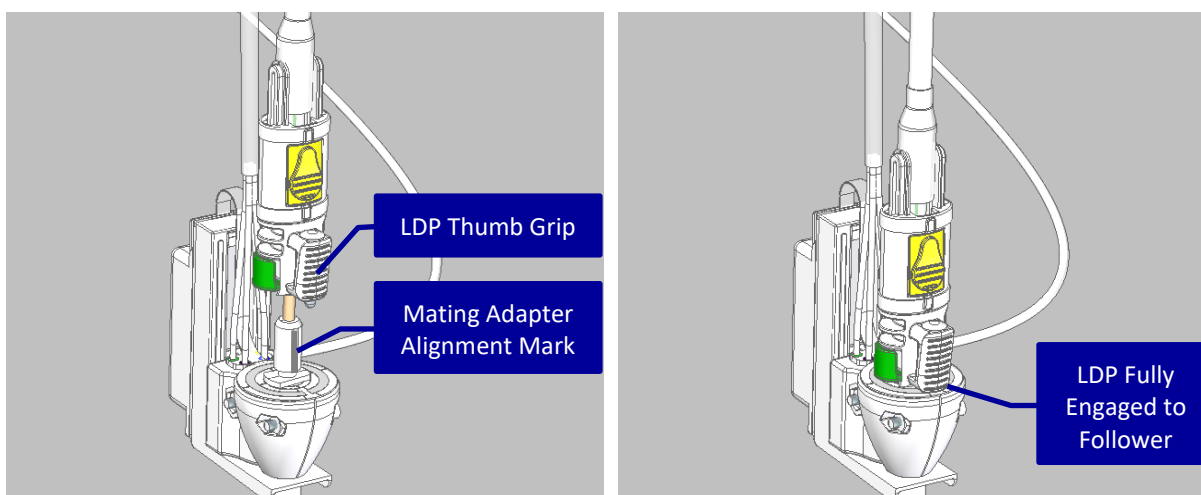

Figure 8.6.41: Laser Delivery Probe as Inserted into the RPD Follower
Using the following steps, the sterile LDP can now be advanced into the RPD Follower and into the brain until the LDP Locking Interface comes in full contact with the Mating Adapter on the Follower (see Figure 8.6.41).
- Slowly insert the LDP through the Probe Driver Follower and visually align the LDP thumb grip to the alignment mark (grey line) on the Mating Adapter (Figure 8.6.41)